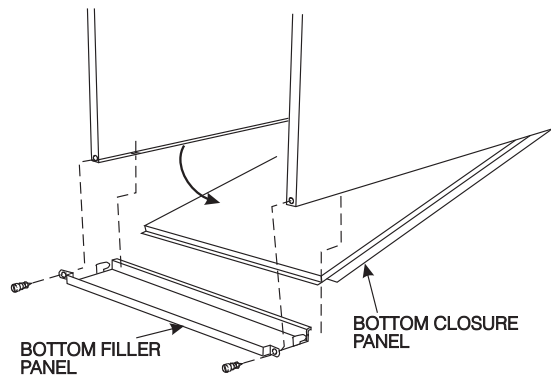

Fig. 9 – Removing Bottom Closure Panel
- Tilt or raise furnace and remove 2 screws holding bottom filler panel. (See Fig. 9.)
1. Tilt or raise furnace and remove 2 screws holding bottom filler panel. (See Fig. 9.)